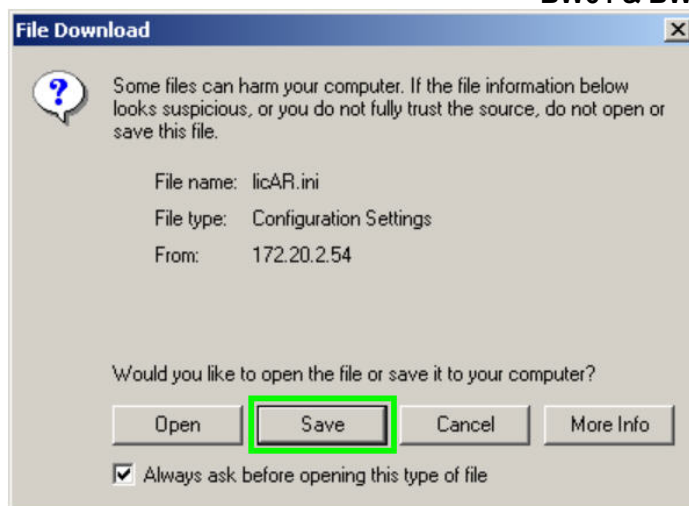

Figure 12-1 Request License Upgrade File
3. Select the 'Save' option from the File Download dialog box, shown in Figure 12-1 Request License Upgrade File, and save the .ini file to a known location.